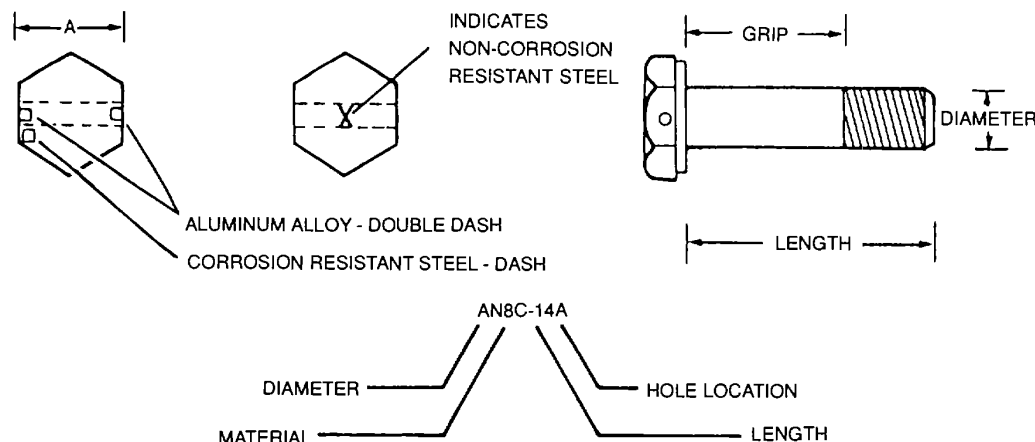
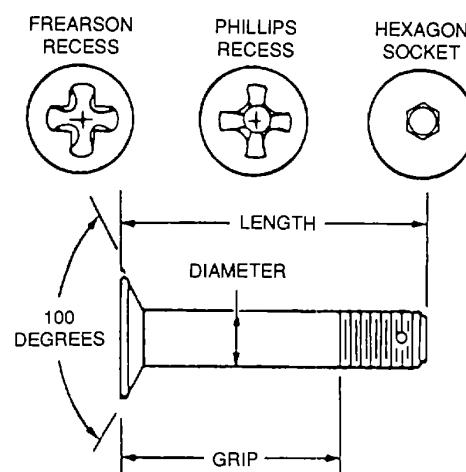

Figure 2-2. Hexagon Head Bolt Identification
Figure 2-4. Countersunk Close Tolerance Bolt
(1) Material. Bolts are made of cadmium- or zinc-plated corrosion-resistant steel, corrosion-resistant steel, or anodized aluminum alloy.
(2) AN bolt part number. The AN bolt code designation indicates type of bolt, diameter, material, overall length, and if the head or shank is drilled. See figure 2-2 and refer to tables 2-2 through 2-5.
g. Close Tolerance Bolts. Close tolerance, hexagon-head, and 100-degree countersunk bolts are used in aircraft fabrication where bolted joints are subject to severe load reversals and vibration. The bolt shanks are made to close tolerance, permitting a very close fit with the use of reamers. Use such bolts to eliminate lost motion in control systems, etc. Hexagon head bolts are shown in figure 2-2, 100-degree countersunk bolts are shown in figure 2-4. Use an internal hexagonal, Phillips or Frearson recess-type wrench for turning counter-sunk head bolts.